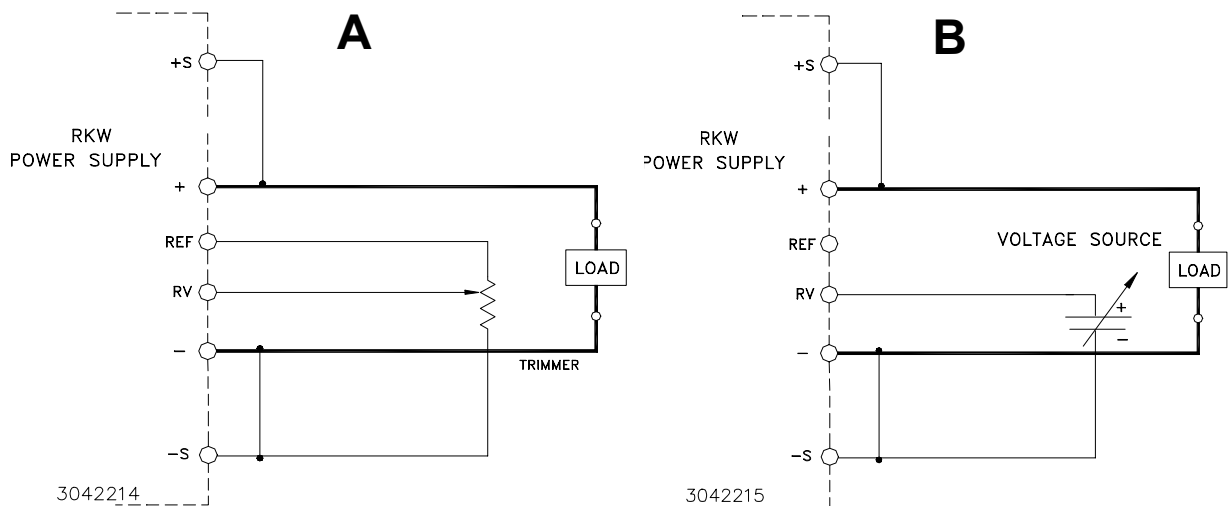

FIGURE 5. CONNECTIONS FOR REMOTE VOLTAGE CONTROL
RESISTANCE: Use a shielded wire 6.6 feet (2M) maximum in length, for connection (of REF, RV, and –S terminals) to the trimmer control. Connect the external trimmer as shown in Figure 5 (A). Suggested value for the trimmer control is 5K ohms). With the external trimmer control at its maximum clockwise position, set the output voltage to the desired maximum value by adjusting V_{adj} clockwise. The value should range from 0 to 120% of E_o nominal (from 0 to 110% for the 48-volt model, and for the 3-volt model). The remote voltage control may not be able to go down to zero volts because of the residual resistance of the potentiometer (could be about 10%).
VOLTAGE. By adjusting an external 0-6V voltage source (0-5.5V for the 48-volt model, the 3.3-volt model can be adjusted to 3.6V) from minimum to maximum, the maximum output voltage can be adjusted from 0 to 120% (V) (for the 3.3 volt and 48 volt models 110%). Remove the shorting link between the REF and RV terminal. Connect the voltage source across the RV and (–)S terminals as shown in Figure 5 (B).